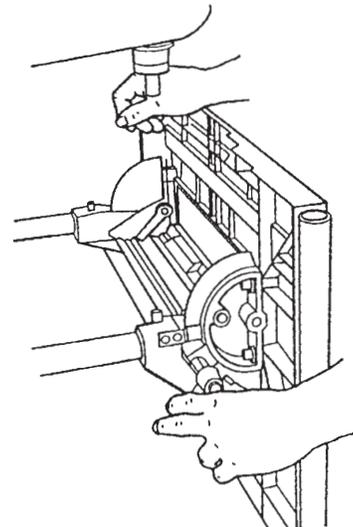

Figure C-12
6. Move the worktable into the 90° position by loosening the table tilt lock (165), as seen in Figure C-12, then putting the worktable in the horizontal 90° position, see Figure C-13. Retighten the table tilt lock only enough to allow movement with firm pressure.